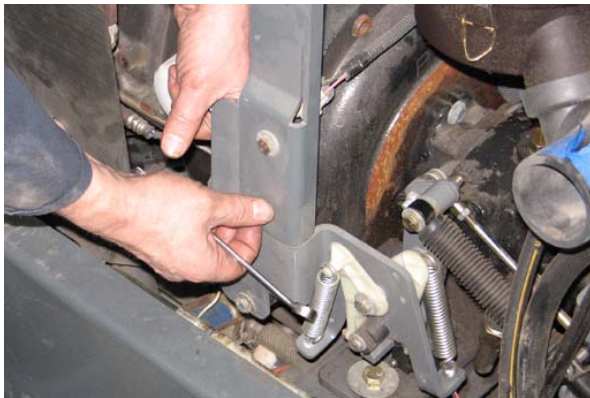

FIG. 2
5. Remove the hardware holding the air cleaner bracket to the machine and move the air cleaner/air cleaner bracket away from the scrub vacuum fan. (Fig. 2)